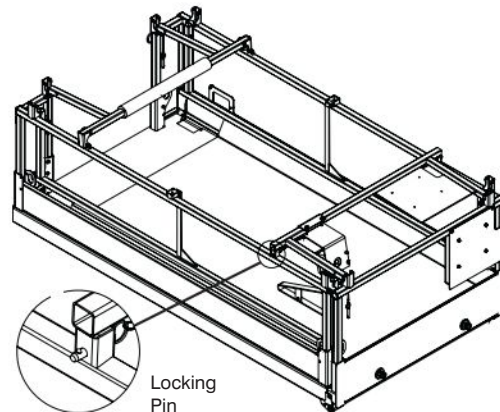

Figure 2-16b. All Guardrails Folded Down
7. Lock in place on the mounting post using the locking pin (refer to Figure 2-16b). Ensure that the detent ball of the pin is all the way through.
5. Lock each guardrail in place with the locking pins ensuring that the detent ball of each pin is all the way through. See Figure 2-16b.